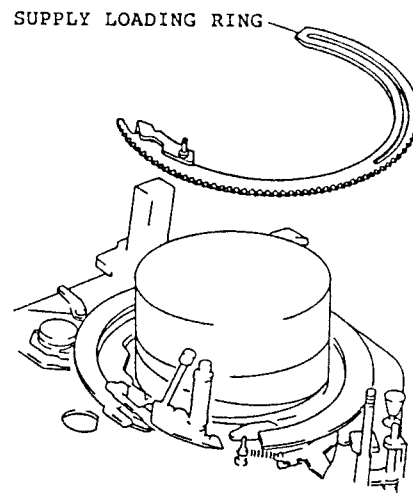

Fig. 2-89
14. Remove the supply loading ring from the chassis. (See Fig. 2-89)
18. Remove the supply loading ring. (See Fig. 2-89)